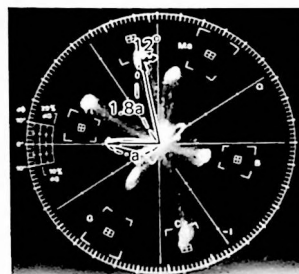

Fig. 4-4-49
- Adjust CHROMA GAIN VR211 so that the RED vector on the vectorscope is equal to 180% as compares to the burst signal. (Fig. 4-4-49)
- Adjust BURST PHASE VC203 so that the RED vector is 12° away from the R-Y axis. (Fig. 4-4-49)